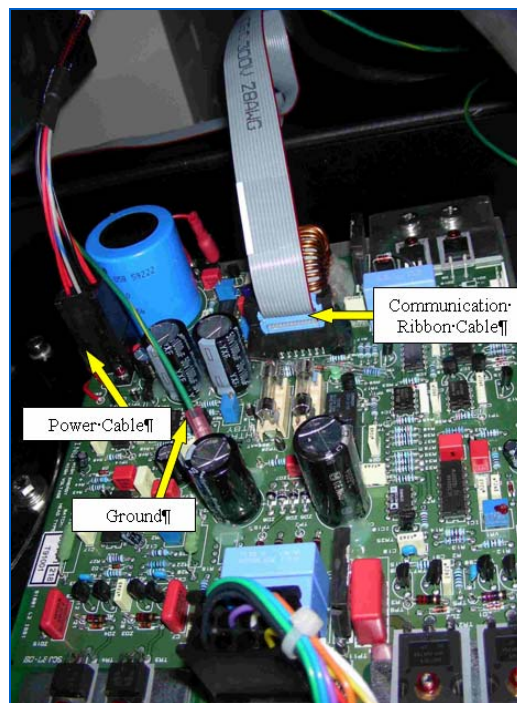

Figure 266: X-ray Generator Controller Board
4. Remove the three leads connecting the X-ray Controller Board to the machine: The Power Cable, Ground wire and; Communication Ribbon Cable (Figure 266).